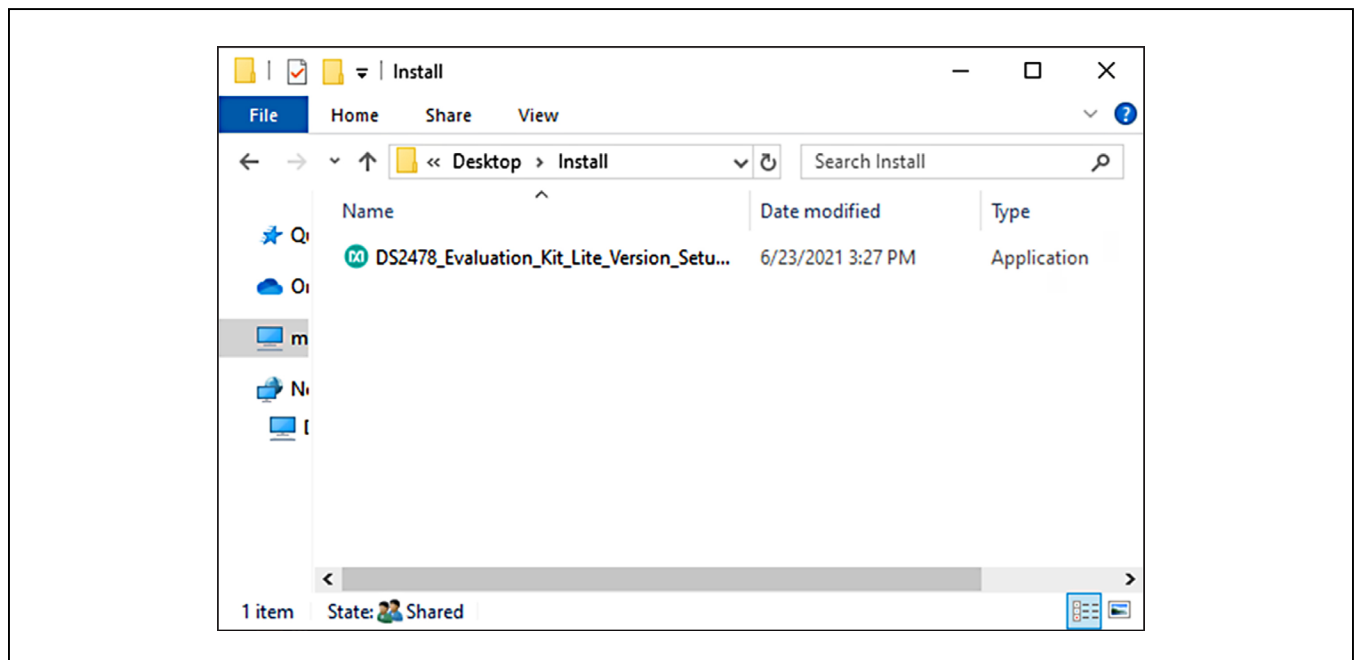

Figure 1. File Viewer
- 2) In a file viewer (Figure 1), double click on the **DS2478\_Evaluation\_Kit\_Lite\_Version\_Setup\_V1\_0\_0.exe** file to begin the installation.